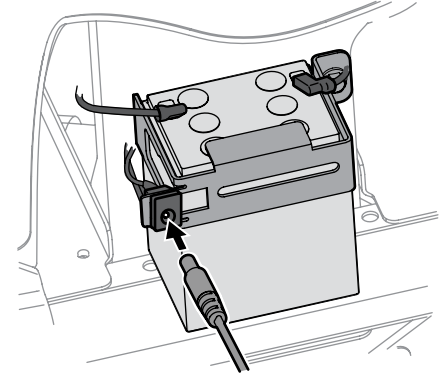

Figure 4-16
- A separately available charging unit is available for this tractor. Instructions for using this feature will accompany the battery charging accessory. The charging unit will plug in right next to the battery as shown in Figure 4-16. To order the battery charger, see the Parts/Warranty supplement sheet.